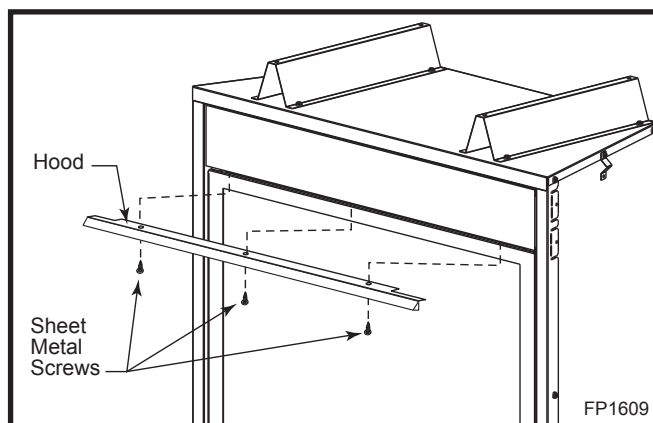

Fig. 6 Secure hood to fireplace with sheet metal screws.
1. Remove top panel by removing two (2) screws on each end. Carefully remove hood from inside top opening.
2. Remove three (3) sheet metal screws in bottom flange of panel.
3. Install the hood by aligning the three holes in bottom flange of panel top. (Fig. 6)
4. Secure hood to bottom flange of top panel using three screws removed in Step 2. (Fig. 6)